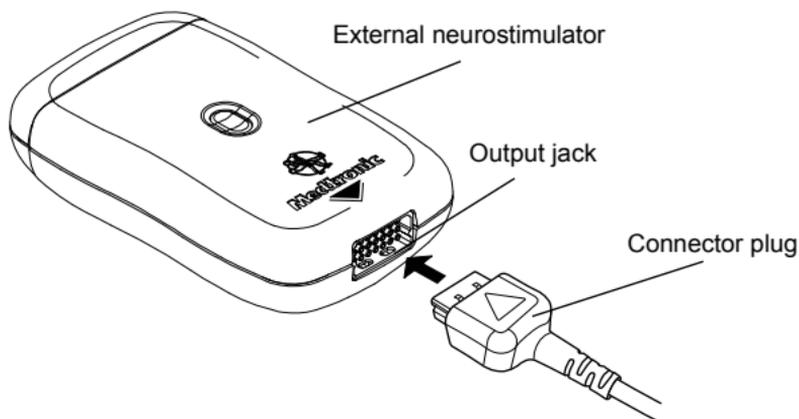

Figure 5. Connecting the Multi-lead trialing cable to the ENS.
11. After verifying that the ENS is turned off, push the connector plug into the output jack of the ENS (Figure 5).